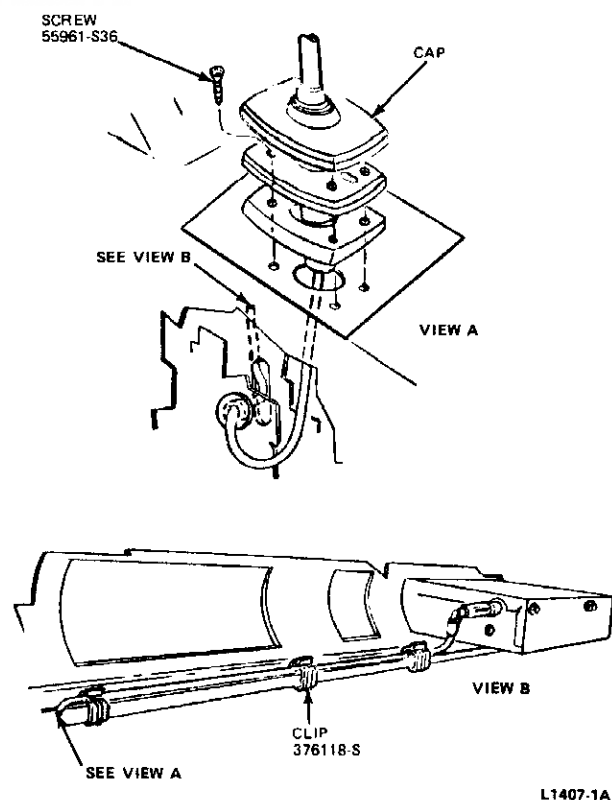

FIG. 4 Antenna Installation—Pinto and Bobcat
1. Disconnect the antenna connector at the rear of the radio (Fig. 4) and remove the clips retaining the cable to the instrument panel.
2. Remove the snap-on cap and four screws retaining the antenna to the fender, and remove the antenna assembly (Fig. 4).